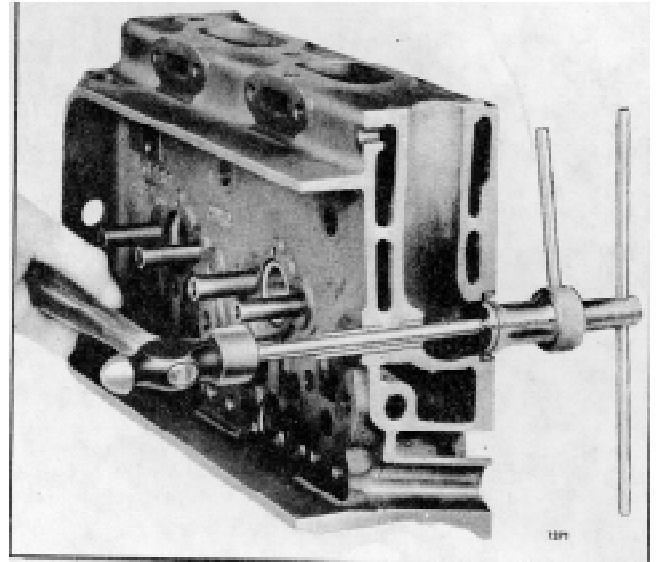

Fig. 12 - Removing Valve Seat Insert
1. Place the cylinder head on its side as shown in Fig. 12.